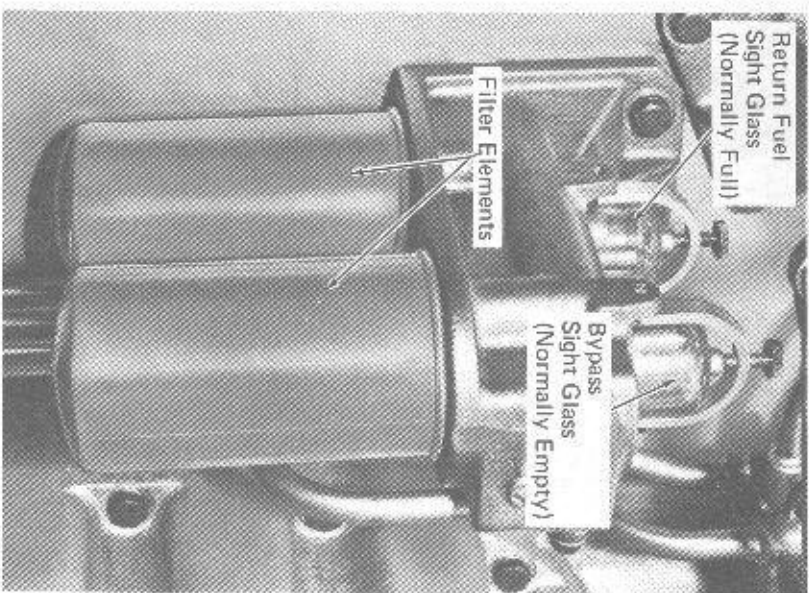

Fig. 3-4 - Fuel Oil Sight Glasses
9. At the equipment rack in the engineroom, place the fuel prime/engine start switch in the FUEL PRIME position until fuel flows in the return fuel sight glass clear and free of bubbles (normally 10 to 15 seconds). See Fig. 3-4.